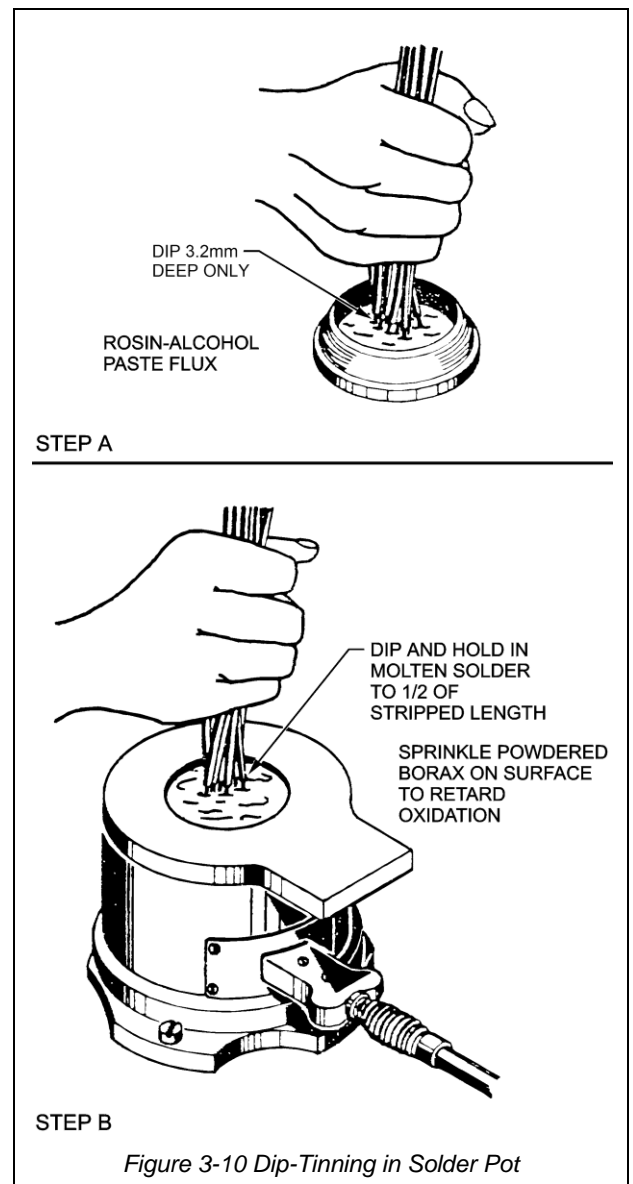

Figure 3-10 Dip-Tinning in Solder Pot
28. Dip-tin wires smaller than No. 8 about eight or ten at a time. Dip-tin wires size No. 8 and larger individually. (See Figure 3-10).